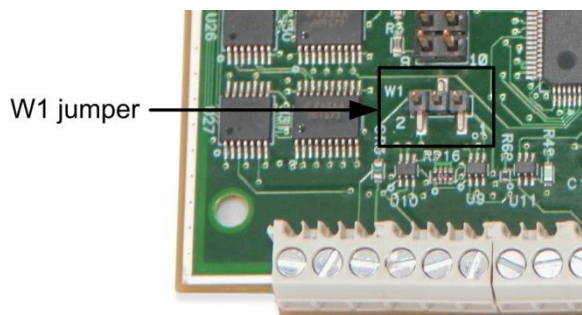

Figure 8. W1 jumper location
5. Configure jumper **W1** for either pull-up or pull-down. The jumper is configured by default for pull-down. Figure 8 shows the location of the jumper on the board.